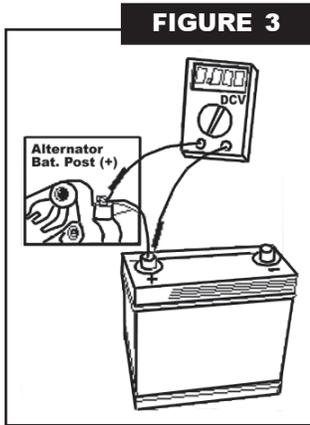

FIGURE 3
- ◆ Using the voltmeter, measure the voltage drop between the battery positive post (+) and the alternator output post (See figure 3). Voltage should be less than 0.40VDC. If voltage is higher than 0.40VDC, check for poor connections between the alternator and the battery. Possible causes are undized battery cables, loose or improperly crimped terminals, and corroded connections.